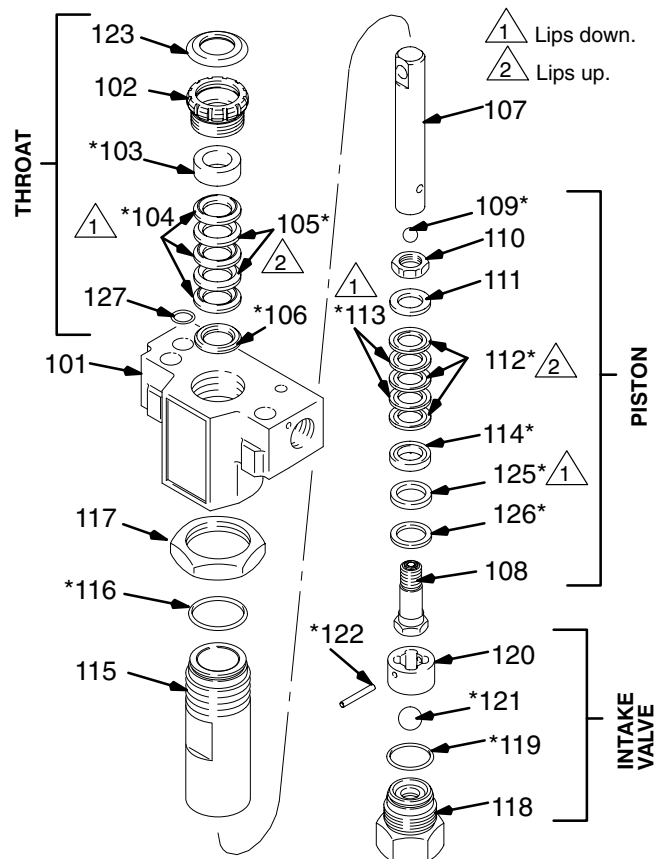
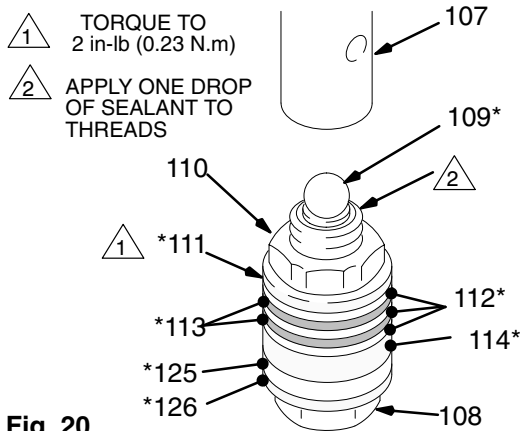
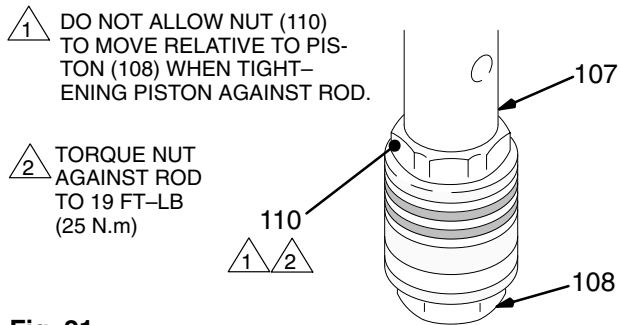

Fig. 19
Fig. 20
Fig. 21
### Disassembling the pump (See Fig. 19)
**NOTE:** Alternate plastic and leather packings. See Fig. 19. The lips of the throat V-packings face down. The lips of the piston V-packings face up. The lips of seal 125\* face down. Incorrect installation damages the packings and causes pump leaks.
1. Check the outside of the piston rod (107) and the inside of the cylinder (115) for wear. Replace worn parts to ensure a good seal with the new packings.
2. Stack these parts onto the piston valve (108) one at a time: the backup washer (126\*) and u-cup (125\*), the female gland (114\*), alternately three plastic (112\*) with two leather packings (113\*), and the male gland (111\*). See Fig. 20.
3. Tighten the nut (110) onto the piston valve (108) to 2 in-lb (0.23 N.m). See Fig. 21.
**Note the alignment** of the piston (108) to the nut (110). Maintain this alignment through Step 8.
5. Place the ball (109\*) on the piston valve (108). See Fig. 20.
6. Hand tighten the valve into the piston rod just until the nut (110) contacts the rod. See Fig. 21.
7. Place the flats of the rod (107) in a smooth jaw vise.
8. **CAREFULLY** tighten the nut (110) against the piston rod to 19 ft-lb (25 N.m). See Fig. 21.
Use two wrenches to maintain the alignment mentioned in Fig. 21.